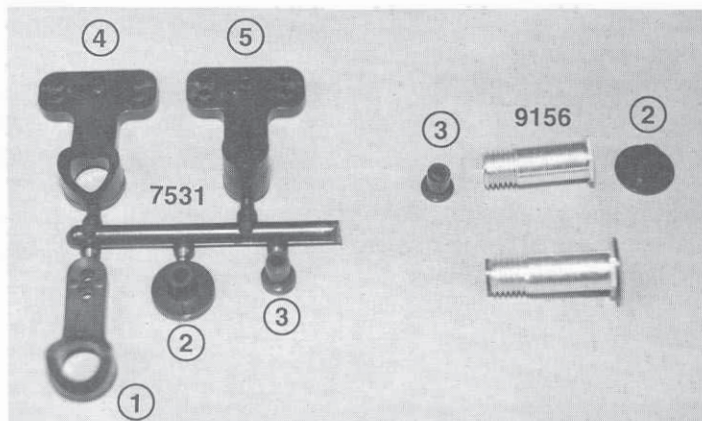

Fig. 24
Fig. 24 Inside the same bag you will find the #7531 plastic servo saver parts tree and the #9156 aluminum servo saver tube. The names of the parts on the parts tree are: (1) left upper servo saver arm, (2) lower servo saver bushing, (3) upper servo saver bushing, (4) left lower servo saver arm, (5) right side bellcrank. Remove the two servo saver bushings and install them into the servo saver tube. The upper bushing goes into the threaded end of the tube and the lower bushing goes into the hex end of the tube.